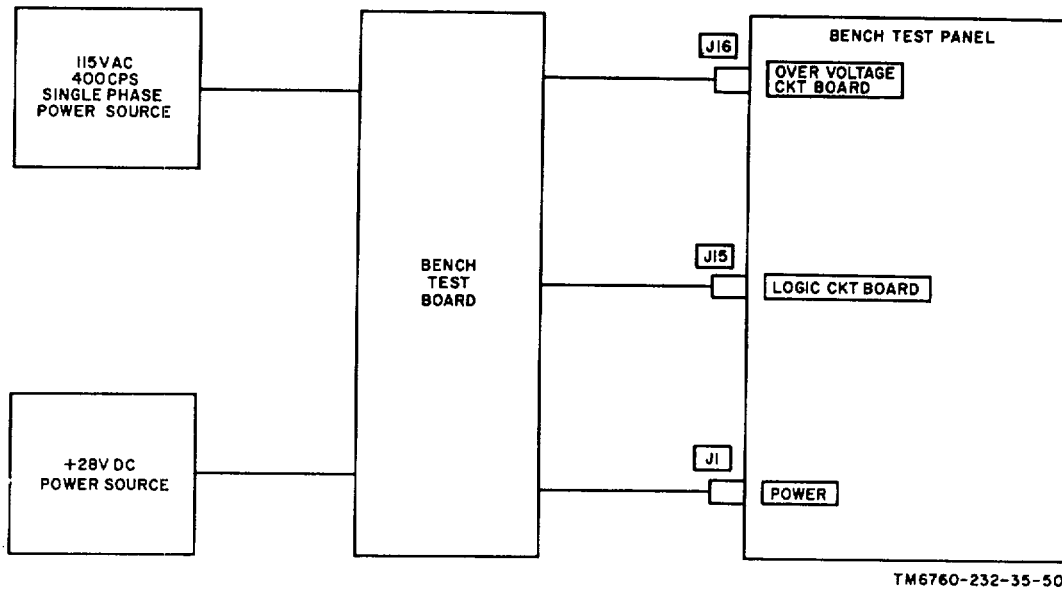

Figure 5-4. VOLTAGE CONTROL TEST position, operational test setup.
(1) Test board
- (2) Multimeter.
b. *Test Connections and Conditions.* Connect bench test set to test board as shown in figure 5-4.